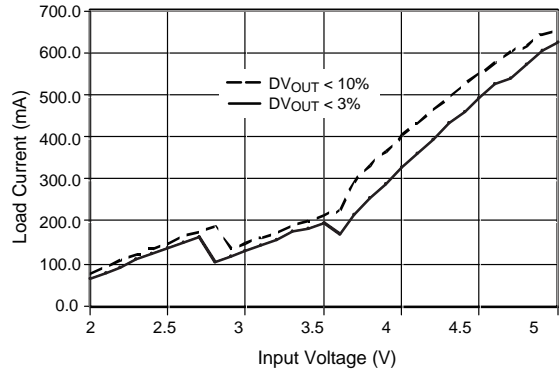

Figure 9. Output Current Capacity vs. Input Voltage
2. Refer to Figure 9 in Typical Performance Characteristics